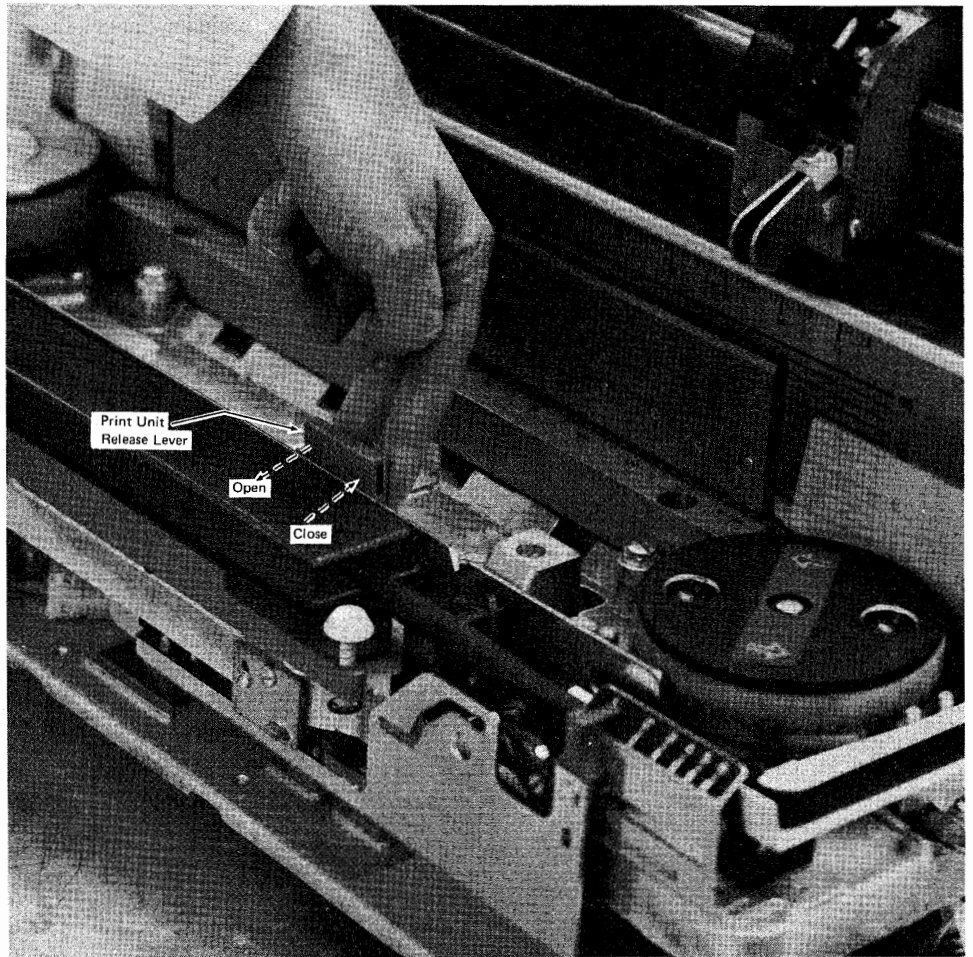

Figure 11-3. Print Unit Open/Close
- 2 Open the print unit as shown in Figure 11-3.
- 11 Close the print unit shown in Figure 11-3.
- 8 Close the print unit as shown in Figure 11-3.